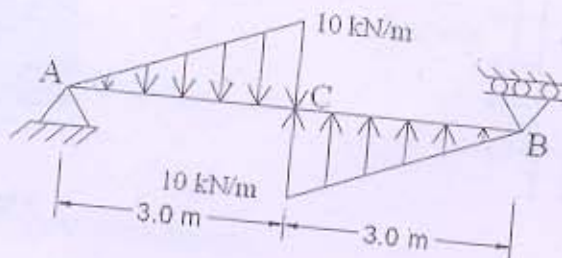

Figure 10
- (b) Draw Shear Force and Bending Moment Diagram for the beam shown in **Figure 10**.